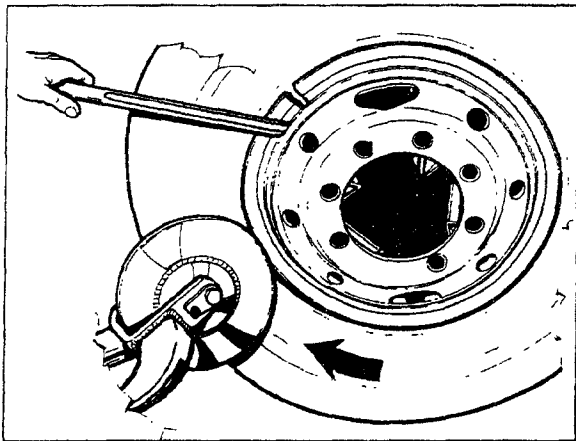

Fig.41
4. Engage one edge of the lock ring in its seat and complete the mounting process with the bead breaker disc. In the initial mounting phase hold the rim edge in its seat with a bar (Fig.41).